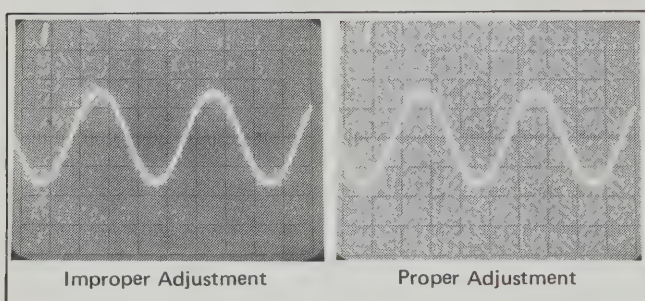

Figure 5-7. Tracking Oscillator Output Adjustment.
- g. Adjust A2R113 (T.O. MIXER BALANCE) for the cleanest signal. See Figure 5-7.